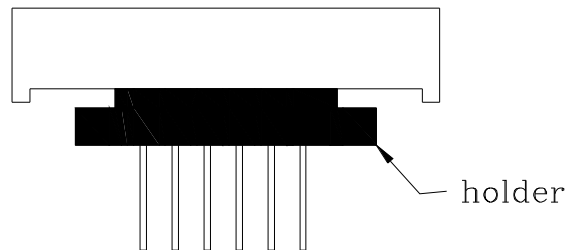

Fig.4
- 2) Use Display with holder made of resin (Fig.4) to position the PIN.